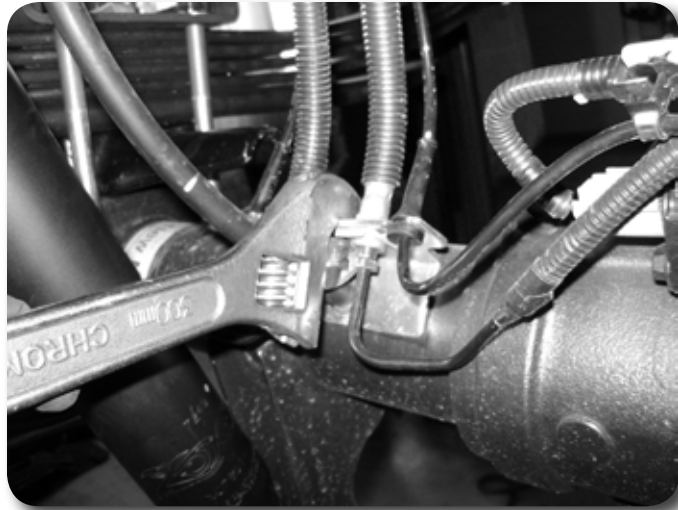

Figure 23
12. The brakelines may require additional slack. Located the factory bracket on the axle. Using an adjustable wrench, carefully bend the bracket so the fittings are positioned vertical to allow more slack. **Figure 23**